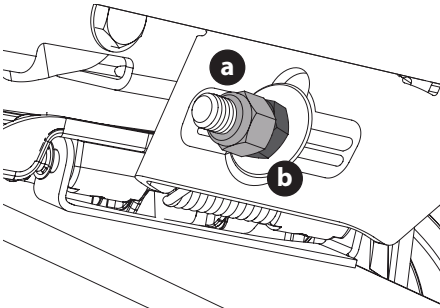

Fig. 36
5. To **raise** the front of the deck, remove the end cap, loosen the outer jam nut (a) then tighten (thread inward) the inner nut (b) against the front hanger bracket (Fig. 36). When proper adjustment is achieved, re-tighten the outer jam nut (a) to 57 ft-lbs (77 N-m) and replace the end cap.
6. To **lower** the front of the deck, remove the end cap, loosen the outer jam nut (a) then loosen (thread outward) the inner nut (b), away from the front hanger bracket (Fig. 36). When proper adjustment is achieved, re-tighten the outer jam nut (a) to 57 ft-lbs (77 N-m) and replace the end cap.